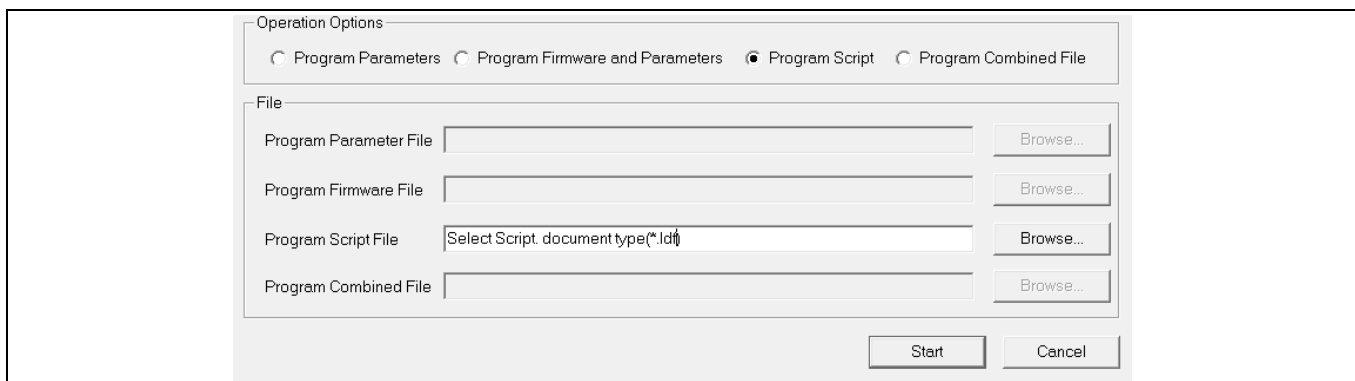

Figure 15 Program the script
- 6. If the script file needs to be programmed in the internal Flash memory of iMOTION™ Control IC after programmed firmware and parameters file, still click on system page, click “Tools” > “Programmer” and select “Program Script,” shown as in Figure 15 below. Regarding the Script file, browse and select the ‘xxx\_Script.ldf’ file prepared in Section 2.1.2. After programming script, please click “File” > “Import Register Map” to import script (.map) file into MCEDesigner file (.irc), and save this (.irc) file, otherwise a map error will appear.